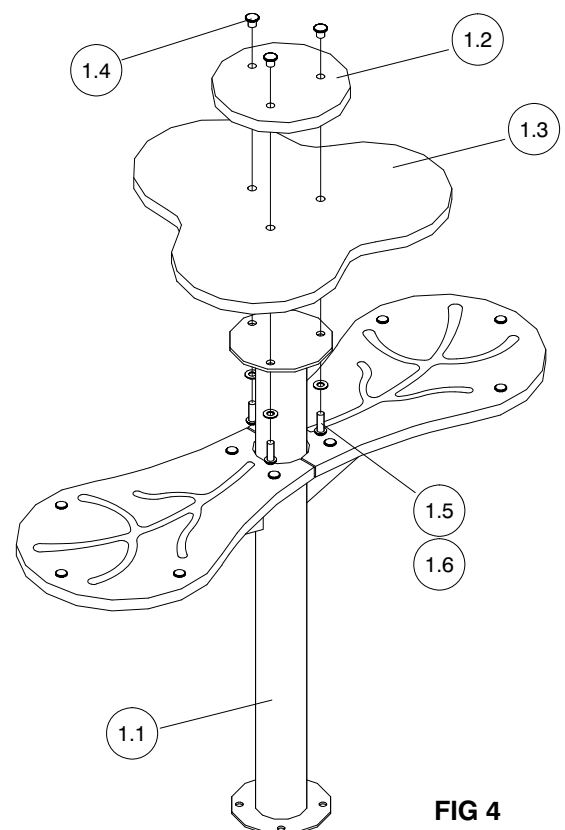

FIG 4
- iv) Attach the upper table top (radius edge uppermost) (1.2) and the lower table top (1.3) to the support assy (1.1) using 3-off M10 Torx bolts (1.5), washers (1.6) and tee nuts (1.4).(Fig 4).